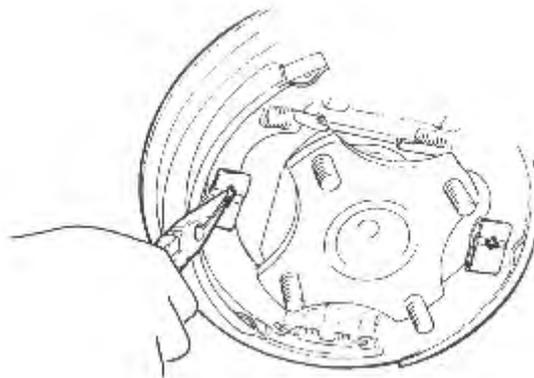

FIG.13-36
(11) Connect brake cable and parking brake lever, then install brake shoe. Pay attention not to damage cable cover. (FIG.13-36)